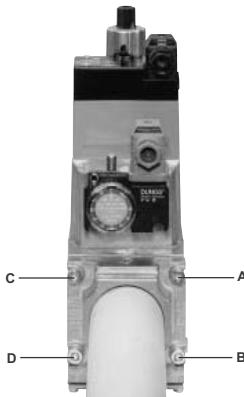

Fig. 5
1. Loosen screws A and B **do not** unscrew (Fig. 5 - Fig. 6).
2. unscrew screws C and D (Fig. 5 - Fig. 6).